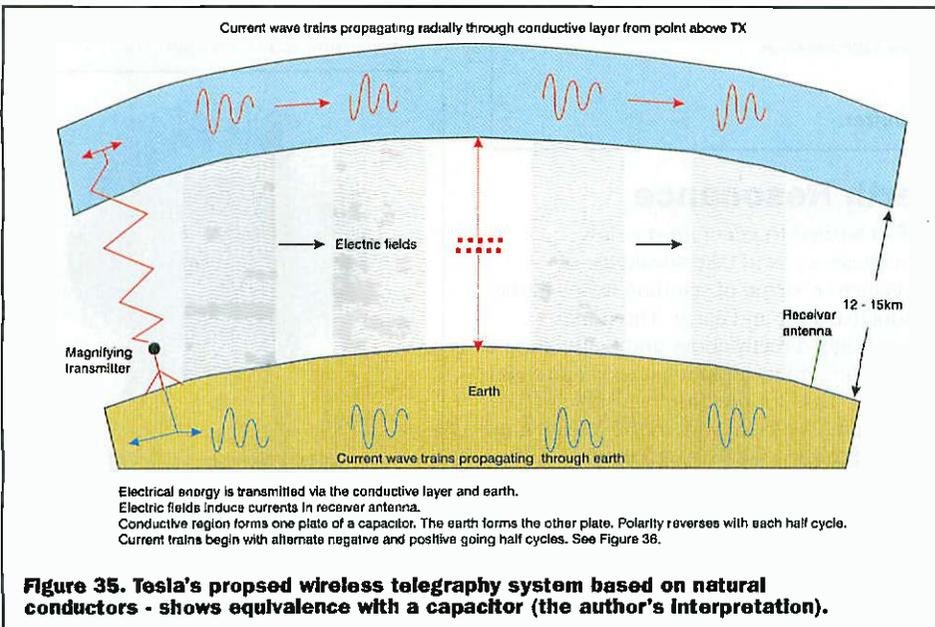

Figure 35. Tesla's proposed wireless telegraphy system based on natural conductors - shows equivalence with a capacitor (the author's interpretation).
As we will see, the concept of electrically charged, or conductive layers high above the earth foreshadowed the discovery of the ionosphere. Moreover, propagation of energy via a conductive layer, as visualised by Tesla, bears a striking resemblance to the Sanguine system. See Figures 35 & 45.
However, Tesla abandoned the above concept and experimented with a 'wireless' communication system based on the conductive layer serving as one 'plate' of a capacitor with the surface of the earth serving as the second 'plate'. The electric field between the two 'plates' would induce currents in short receiver antennas. See Figure 35. Tesla believed that an electric charge could be induced in the upper 'plate' by means of an intense electric field produced by a relatively short antenna energised with a potential in the order of several MV. Electrodes would make the earth connection. Currents would then propagate concentrically through both the conductive layer and the earth's surface from the points directly above and below the transmitter antenna. So with Tesla's system, wavelength applies to these currents whereas with Marconi's system it applies to radiated waves.
electric fields would induce electric currents in distant receiver antennas. Moving electric fields can be visualised as longitudinal waves i.e. propagating similarly to sound waves but with variations in the strength of the electric fields. See Figure 35.
Waves advance with a vertical front and vertical electric (E) field. Field penetrates ocean and induces currents in a submarine's antenna. Wave front bends near earth to become almost horizontal. Upper part of wavefront terminates in ionosphere and probably involves all regions. Compare with Tesla's system Figure 35. See also Figure 08 part 1.